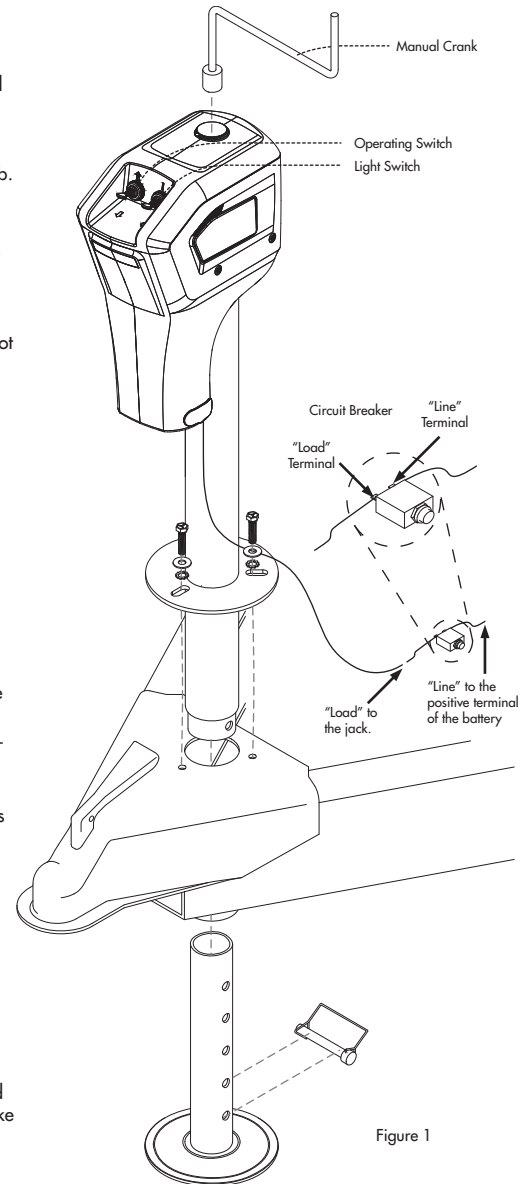

Figure 1
4. Insert the Husky® Super Brute into the jack hole and align the bolt holes so the motor housing is facing forward as shown in Figure 1.
5. Secure the jack with three (3) grade 5, 3/8"-16 UNC bolts and washers. Place the star washers between the flat washers and the mounting plate as shown in Figure 1. The star washers are intended to penetrate through the paint on the mounting plate to ensure direct metal to metal contact. Bolts should be tightened to 15-20 ft•lb.